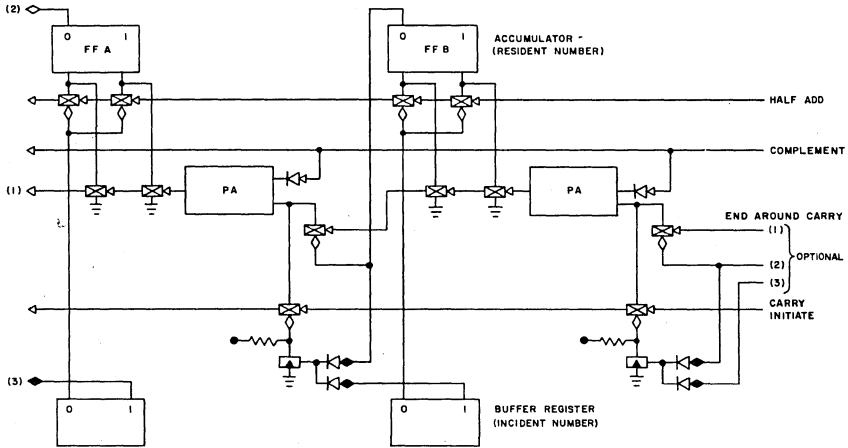

Figure 28 Parallel Adder
Parallel adders may be used to add two binary numbers. The augend is called the resident number and is stored in the accumulator register. The addend, or incident number, is stored in the incident register. The sum appears in the accumulator. R series Type R201, flip-flops can be used as shown in Figure 28.
The 1's complement number system is easiest to implement. To subtract a number from the accumulator, the steps are (1) complement the incident number, (2) half-add, and (3) carry. With this number system it is necessary to use the end-around-carry shown in Figure 28. One's complement subtraction may also be performed by (1) complementing the accumulator, (2) half-add, (3) carry, and (4) recomplementing the accumulator.